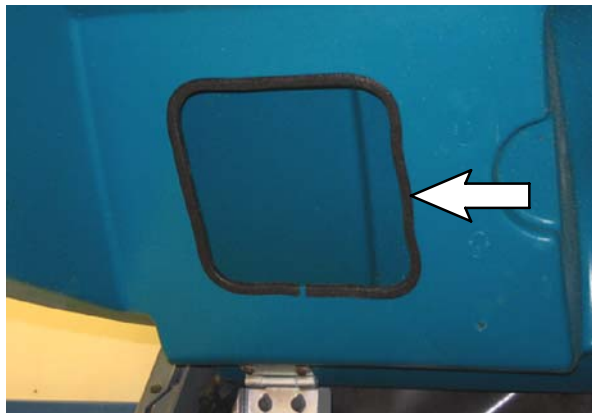
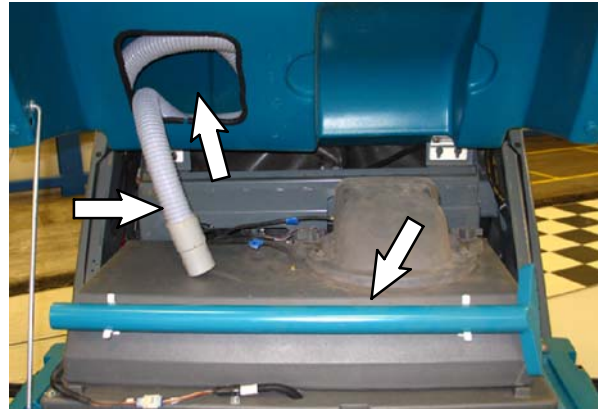
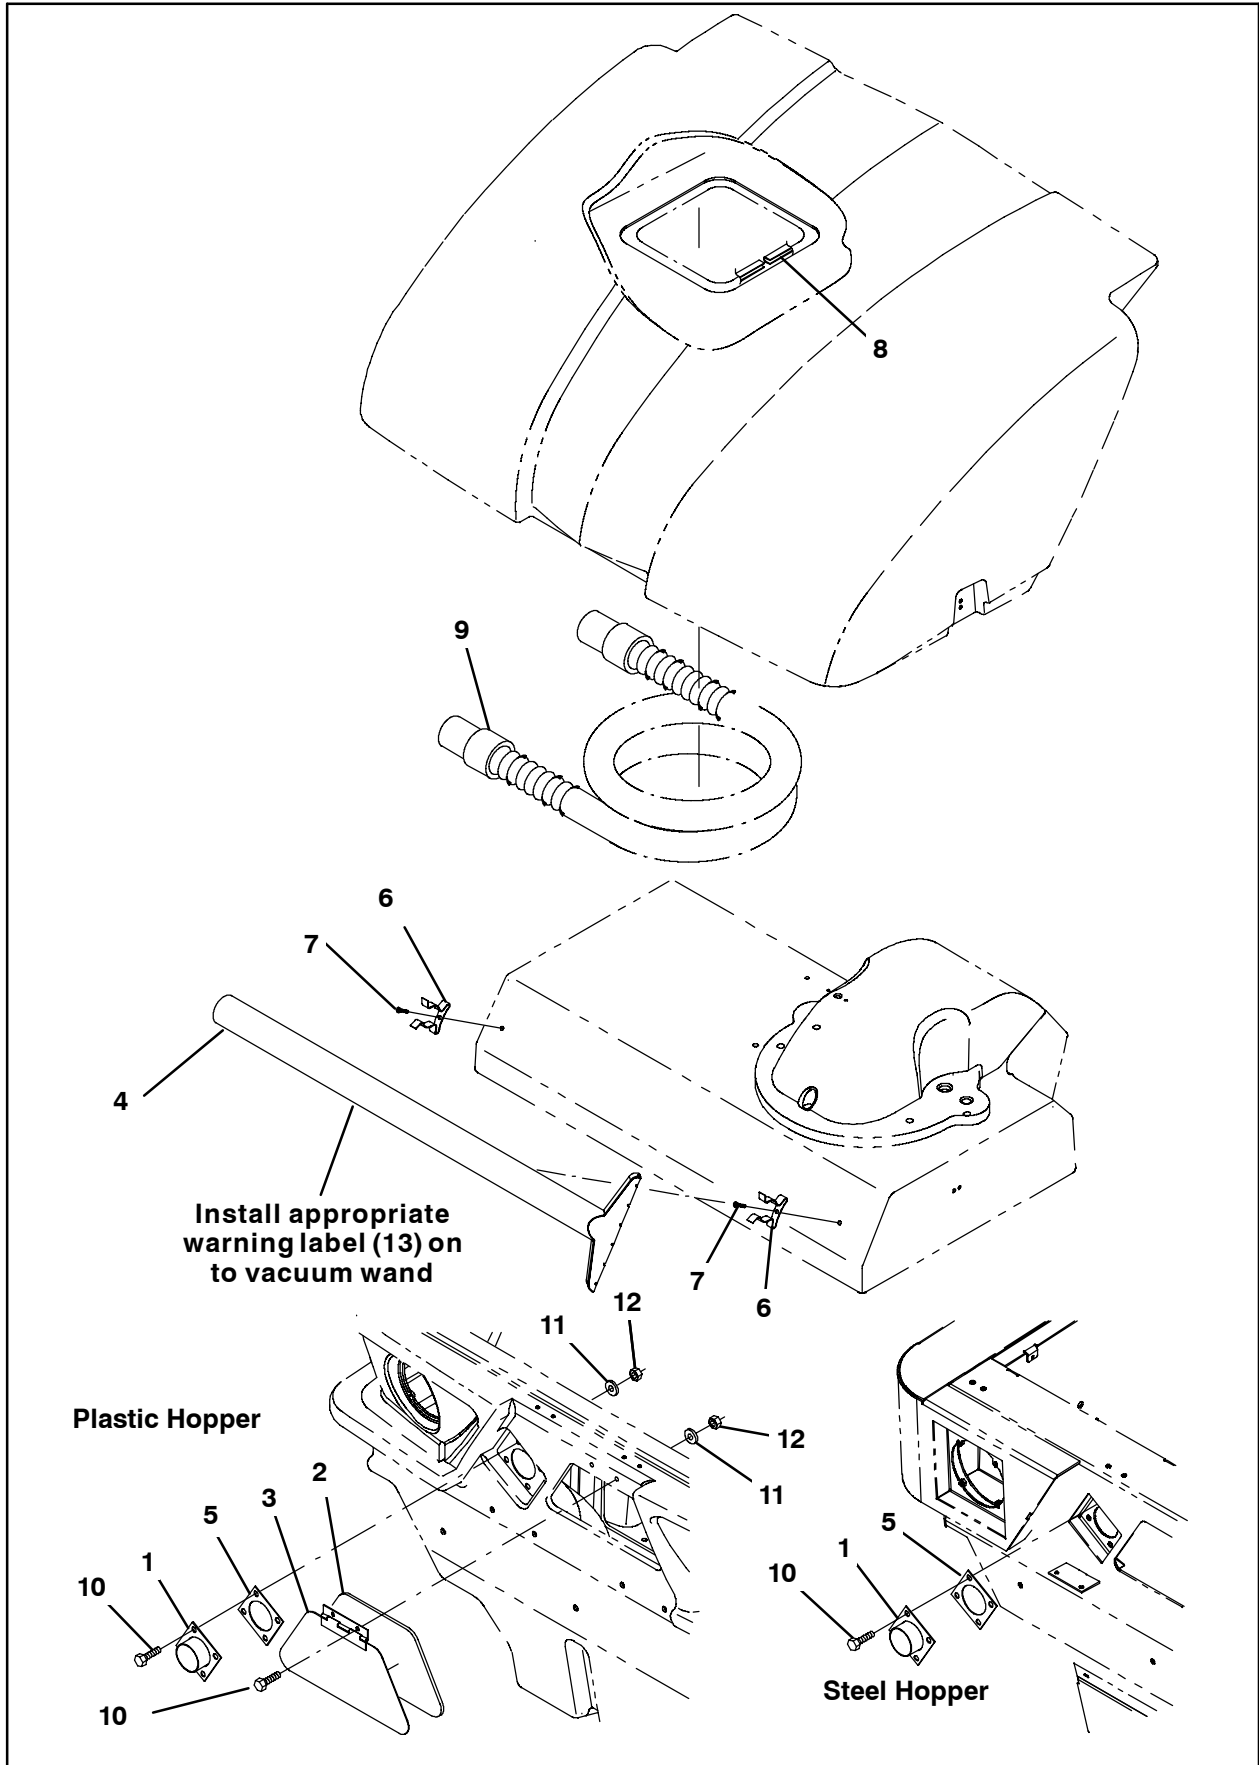

FIG. 8
FIG. 9
FIG. 10
12. Install the trim molding (8) around the edges of the square hole in the hopper cover. Refer to Fig. 8 and Fig. 10.
13. Install the appropriate warning label (13) onto the vacuum wand (5). Refer to Fig. 10.
14. Stow the vacuum hose (12) into the storage area in the hopper cover and secure the vacuum wand (5) into the clips (6) on the filter cover. Refer to Fig. 9 and Fig. 10.